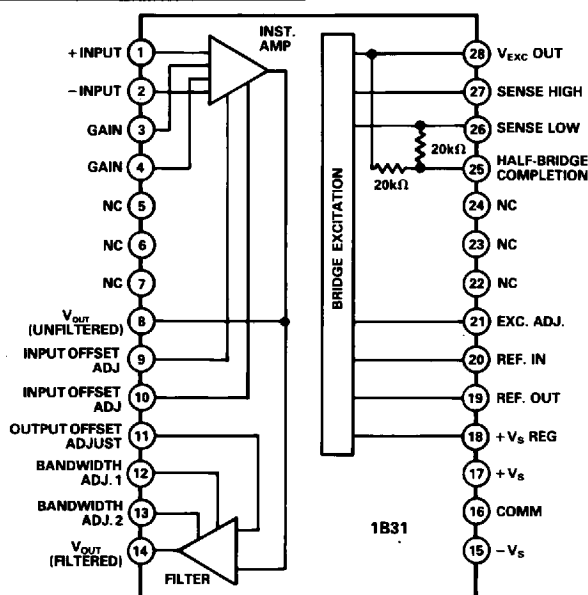

Figure 1. Block Diagram and Pinout
Model 1B31 is based on a two-stage amplifier design and an adjustable voltage regulator section, as shown in Figure 1. The front end is a low noise, low drift, instrumentation amplifier (IA) that is optimized to amplify low level transducer signals (from 2mV full scale) riding on high common-mode voltage (± 9.5V). The gain of the IA is programmed by a single resistor (1V/V to 2500V/V) and the input offset nulled out by an external potentiometer across the offset adjust Pins 9 and 10. The inverted signal (V_{-INPUT} - V_{+INPUT}) is brought out to Pin 8 for applications such as vibration and torque testing where the unfiltered output is required.